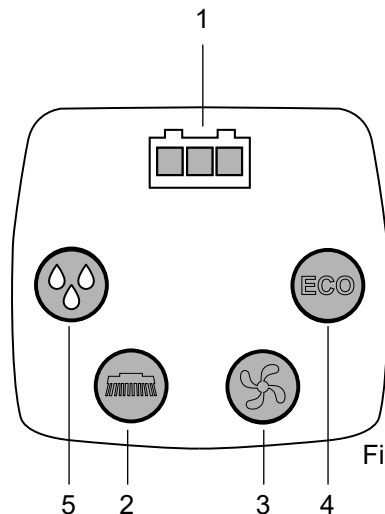

Fig.15
- Battery charge indicator (battery powered models only) (fig. 15, ref. 1): consists of 3 Leds, red, yellow and green, showing the battery charge level. Possible charge level indications:
- Brush control button (fig. 15, ref. 2): enables (Led alight) and disables (Led dark) operation of the “Brush” function; the brush does not start rotating until the “Brush control lever”(fig. 15, ref. 2) is operated.
- Suction control button (fig. 15, ref. 3): switches on (“Led alight”) and switches off (“Led dark”) the suction motor, which generates the vacuum needed to dry the floor after scrubbing. The motor comes into operation only when activated by way of the “Brush control lever”.
- Detergent flow button (fig.15, ref. 5): enables (Led alight) and disables (Led dark) the flow of detergent solution, with three levels of delivery available. Flow is enabled only with the brush in operation.
- ECO button (fig.15, ref. 4): enables (Led alight) and disables (Led dark) ECO operating mode.